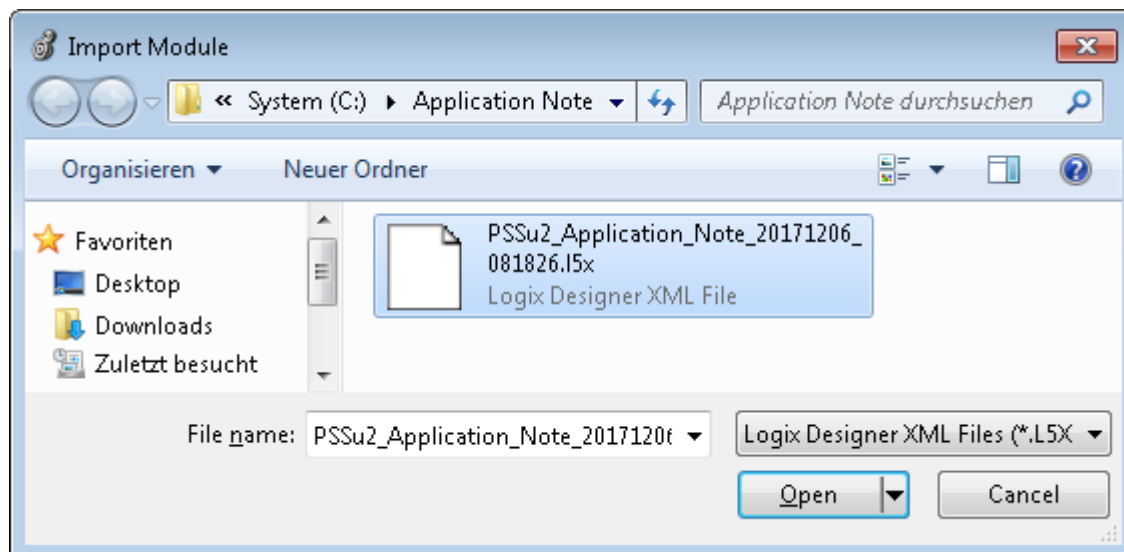

Figure 23: Studio 5000 – Import system configuration from .L5X file (Part 2)
- ▶ Our Example: "PSSu2_Application_Note_yyyymmdd_hhmmss.l5x" (see Figure 23, page 21)